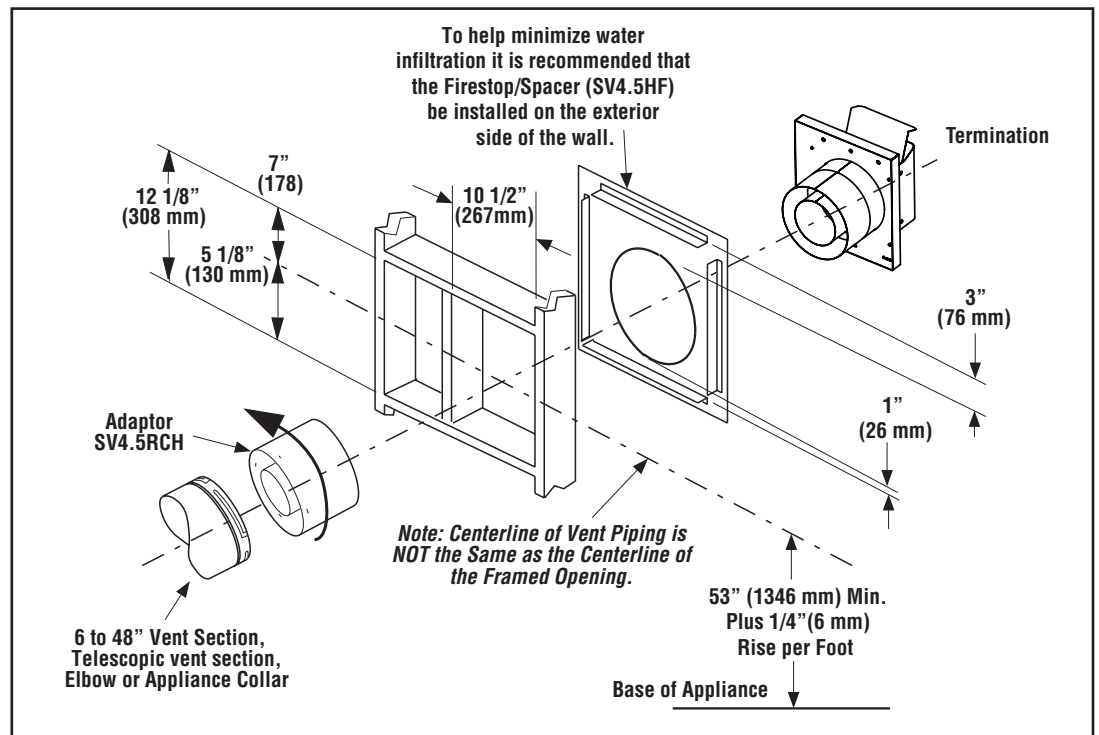

Figure 9 - Installing the Horizontal Termination
- 10. Assemble the vent run to the exterior wall—** If not previously measured, locate the center of the vent at the exterior wall. Prepare the opening. Assemble the vent system until the terminus of the last section is within 7" (178 mm) to 11 1/4" (286 mm) inboard of the exterior surface to which the SV4.5 HT termination is to be attached (Figure 9). If the terminus of the last section is not within this distance, use the telescopic vent section SV4.5LA, as the last vent section. Table 1, page 16 lists the additional venting components needed (in addition to the termination and adaptor) for a range of wall thicknesses.
- 11. Attach the termination adaptor—** Attach the adaptor (SV4.5RCH, provided with the termination) to the vent section or telescoping vent section, elbow or fireplace collar (Figure 9).
- 12. Install the firestop/spacer at the exterior wall—** When using the square termination, install SV4.5HF Firestop/Spacer over the opening at the exterior side of the framing, long side up, with the 3" spacer clearance at the top (Figure 9) and nail into place.